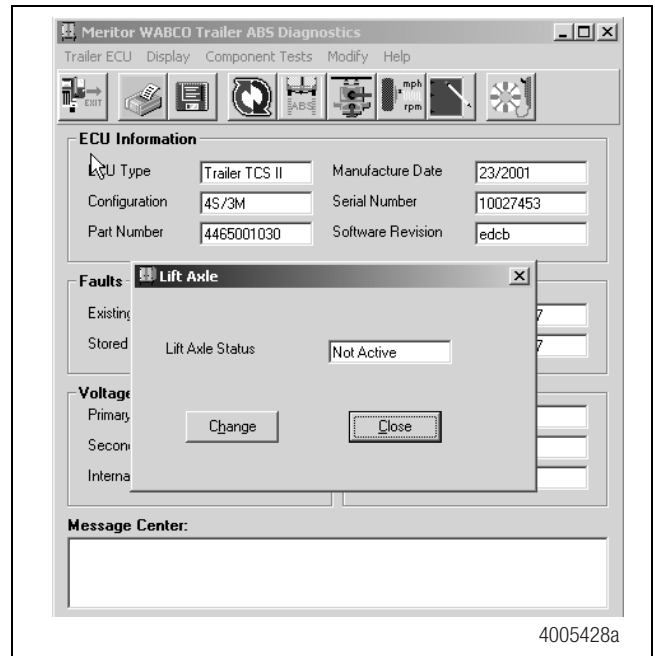

Figure A-2
2. Click on **Lift Axle**. The default lift axle screen will appear and display the default lift axle status **Not Active**. Figure A-2.